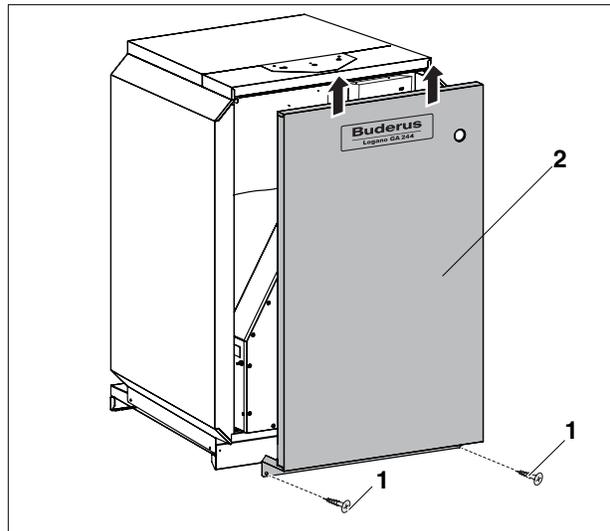

Fig. 30 Removal of boiler jacket front panel
2. Remove the screws from the boiler front access panel (Fig. 30, **Item. 1**) and remove the boiler front access panel (Fig. 30, **Item. 2**).